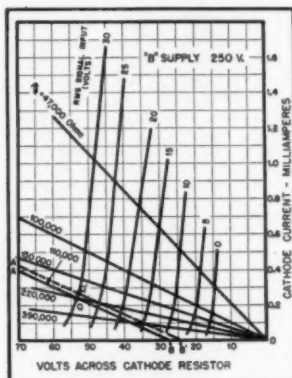

Fig. 8. Rectification characteristics of 6C4 in infinite-impedance detector circuit.
data for such curves experimentally. Such data is obtained in the circuit of (D), Fig. 5, by making  $C_k$  very large and measuring the direct voltage across and the direct current through  $R_b$  as  $R_b$  is varied, while keeping the plate supply and grid-signal voltages constant. Figure 8 shows the rectification characteristics of the 6C4 obtained in this manner. If a large electrolytic capacitor is used for  $C_k$ , the data may be obtained with a signal frequency as low as 60 cps. The data for the curves of Fig. 8, however, were taken at a frequency of 455 kc.
illustrate the large signal capabilities of the circuit. Figure 8 shows that at the quiescent point  $Q$  (no modulation), the d.c. voltage across the cathode resistor will be 53.8 volts. Now, if a grid resistor of 220,000 ohms is employed, the a.f. impedance will be 110,000 ohms and the detector operation will be along the line  $AQB$ . This analysis indicates that the detector output will go to zero at a carrier level of approximately 8 volts r.m.s., showing that the maximum percentage modulation which the detector will accommodate without distortion is approximately